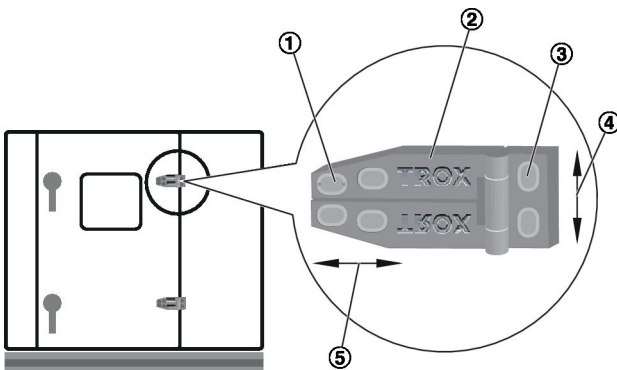

Fig. 42: Adjusting the door
1. ▶ Remove the hinge covers ( Fig. 42 /1).
2. ▶ Loosen the screws of all hinge brackets ( Fig. 42 /2) of a door.
3. ▶ Adjust the door horizontally ( Fig. 42 /5).
4. ▶ Tighten the screws of the hinge brackets ( Fig. 42 /2).
5. ▶ Loosen the screws of all hinge blocks ( Fig. 42 /3) on a door.
6. ▶ Adjust the door vertically ( Fig. 42 /4).
7. ▶ Tighten the screws of the hinge blocks ( Fig. 42 /3).